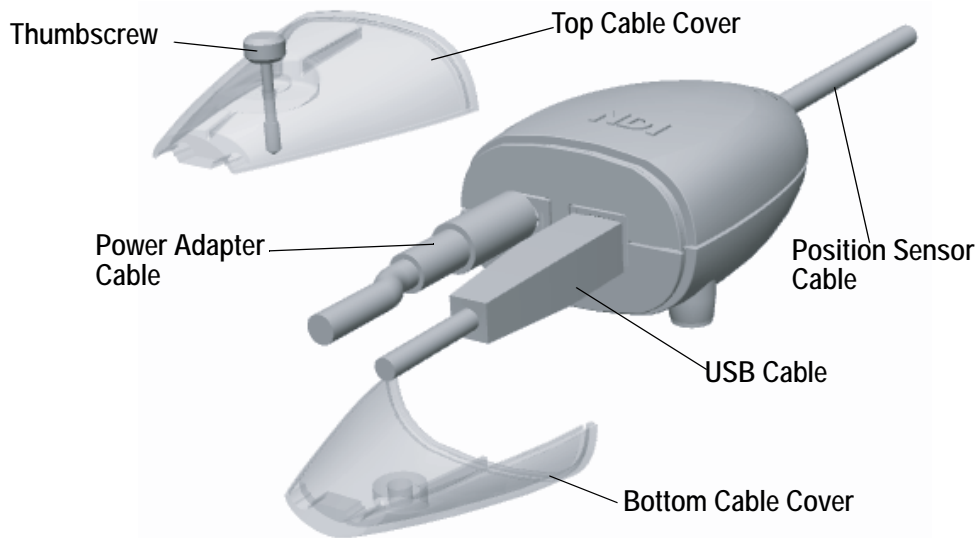

Figure 2-4 Host USB Converter Connecting the Cables
2. Connect the USB cable B plug and power adapter cable to the Host USB Converter, as shown in Figure 2-4.
3. Locate the top and bottom cable covers in place on the Host USB Converter. Secure the covers with the thumbscrew, as shown in Figure 2-4.